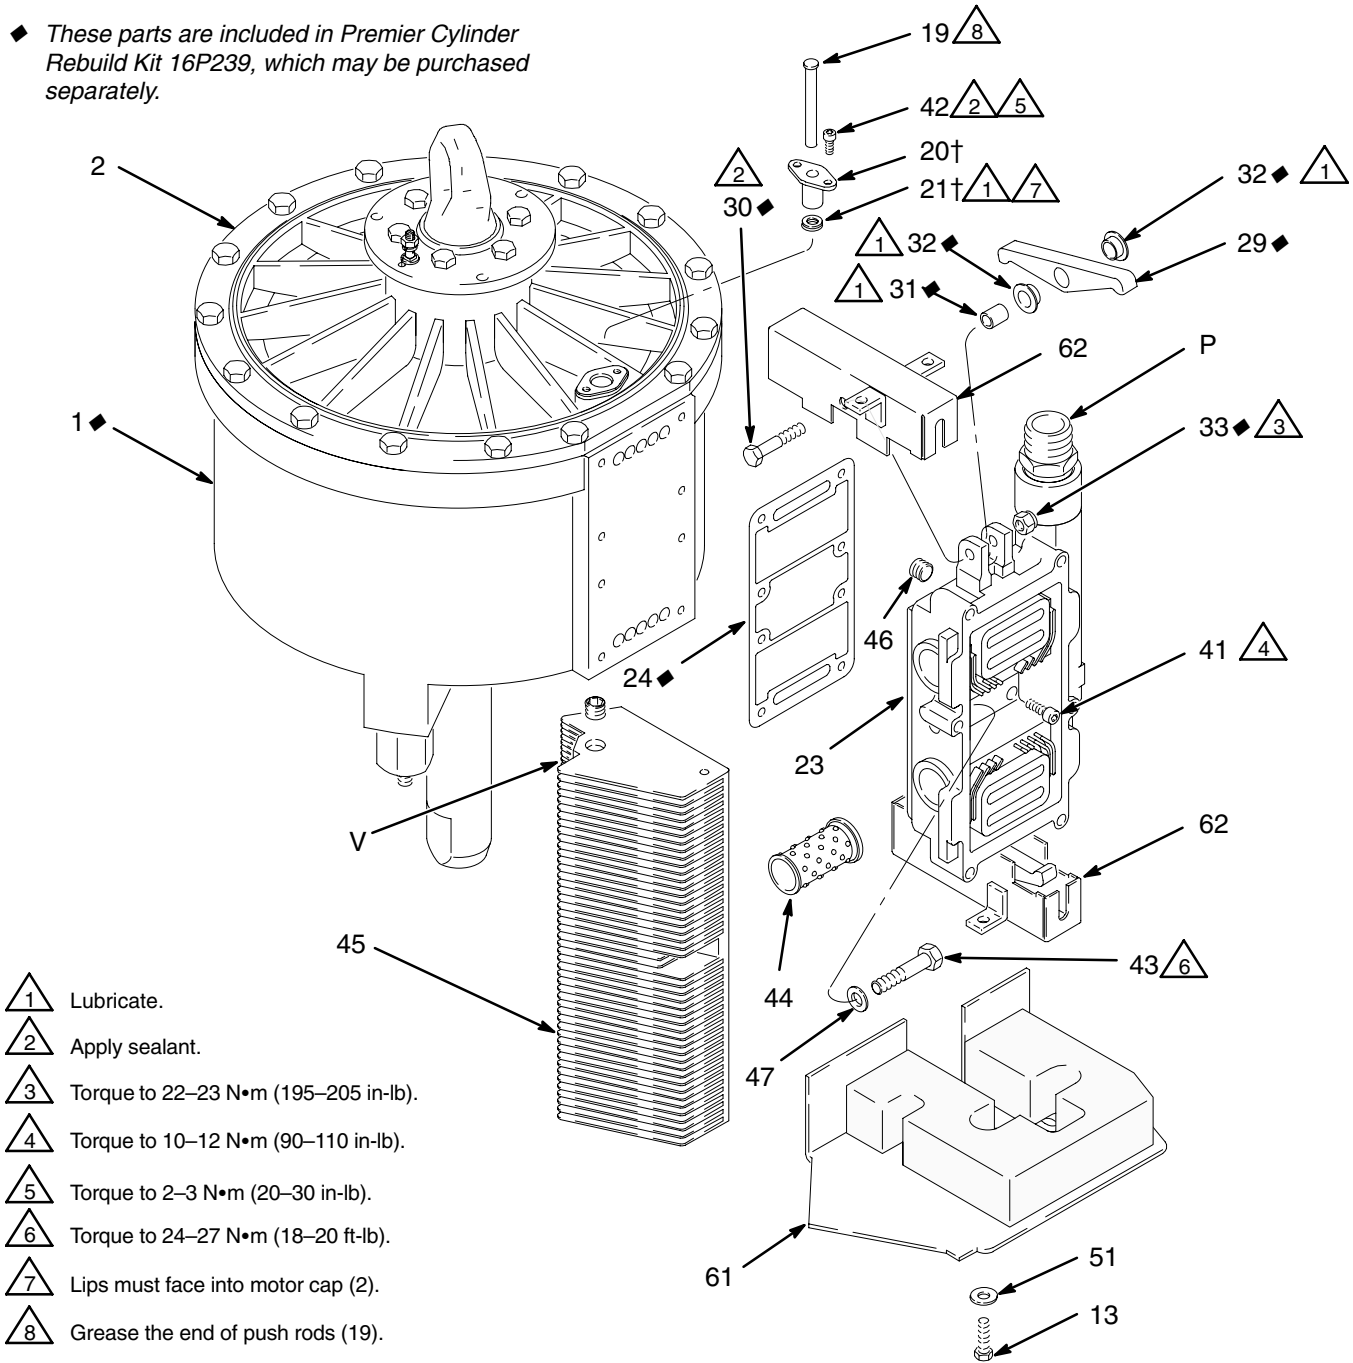

Fig. 9
4. Remove the gasket (26) and the two seals (27). Inspect these parts for wear or damage.
5. Remove the two screws (13) and washers (51) holding the bottom cover (61) to the bottom rocker arm cover (62). See Fig. 9.
8. Using a 17 mm box wrench, remove the capscrew (43) and gasket (47) holding the exhaust manifold (45) to the subplate (23). Remove the two liners (44) from the cavities in the manifold. Check that the vertical slot (V) in the manifold is clear of dirt or blockage; clean with a brush or compressed air. See Fig. 9.
9. Using an allen wrench, unscrew the eight socket screws (41) holding the subplate (23) to the cylinder (1). Remove the subplate and the gasket (24). Inspect these parts for wear or damage.
10. Remove the two screws (42), the top rod fitting (20), and the push rod (19) from the motor cap (2). Using an o-ring pick, pull out the seal (21). Inspect these parts for wear. Repeat for the bottom push rod assembly.
1. Lubricate the seal (21†) and insert it in the motor cap (2) with the lips **facing into the cap**. Install the rod fitting (20†). Grease the end of the push rod (19) and insert it in the fitting. Apply thread sealant and torque the screws (42) to 2–3 N•m (20–30 in-lb). Repeat for the bottom push rod assembly. See Fig. 9.
2. Place the gasket (24) on the back side of the subplate (23), aligning the holes in both parts. With the air inlet port (P) facing up, install the subplate on the cylinder (1) with the eight socket screws (41). Torque to 10–12 N•m (90–110 in-lb).
3. Install the two liners (44) in the cavities of the exhaust manifold (45). Attach the manifold to the subplate with the gasket (47) and capscrew (43), using a 17 mm box wrench. Torque to 24–27 N•m (18–20 ft-lb).
4. Lubricate the sleeve (31) and two bearings (32) and install them in the rocker arm (29). Position the rocker arm between the top flanges of the subplate (23).
5. Note that the rocker arm cover (62) has two tabs that are off-center. Install the cover so the end with the two tabs is toward the outside of the subplate (see Fig. 9). Insert the stud (30) through the cover and rocker arm, then install the nut (33). Torque to 22–23 N•m (195–205 in-lb). Replace the rocker arm cover pad (63, see Fig. 3 on page 12).
6. Assemble the bottom rocker assembly as explained in steps 4 and 5. Install the bottom cover (61) and secure to the rocker arm cover with the two screws (13) and washers (51).